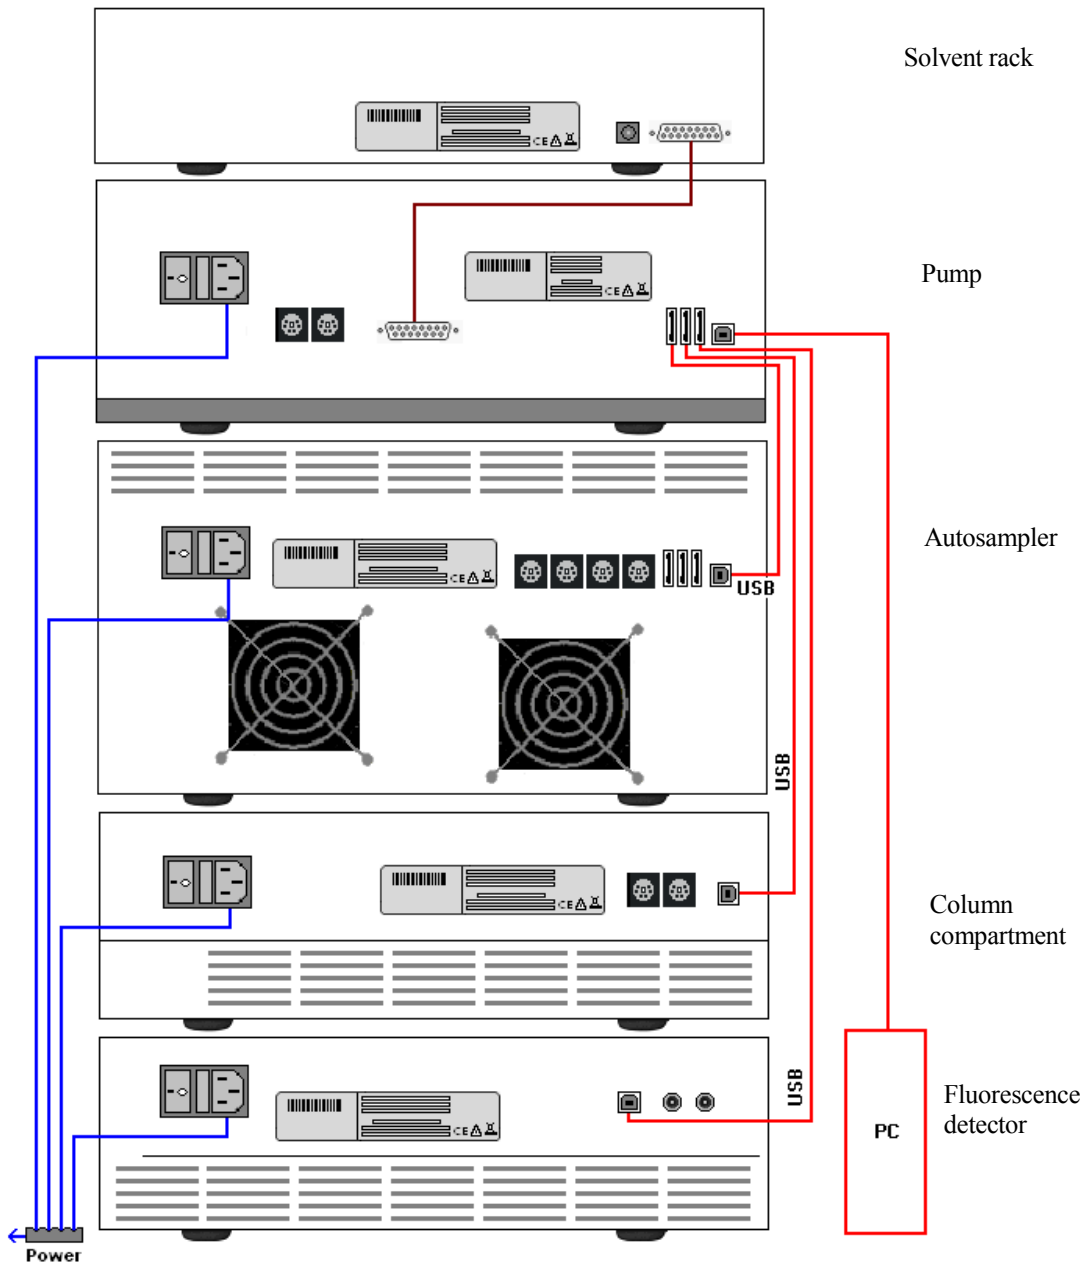

Fig. 8: Example for the rear panel connections on an UltiMate 3000 system
- Connect the detector to an internal USB port on the pump. Thermo Fisher Scientific recommends connecting all modules to the pump, and then connecting the system to the Chromeleon computer via only one connection (→ Fig. 8, page 33). If the system includes a UV detector in addition to the fluorescence detector, Thermo Fisher Scientific recommends connecting the UV detector directly to the Chromeleon computer.